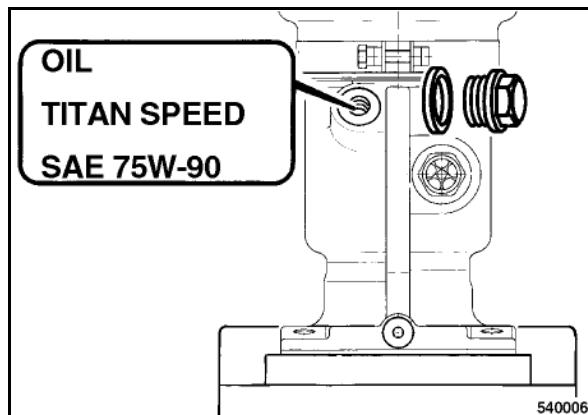

Fig. 57 □
- Clean the filler plug (Fig. 57) and unscrew it.